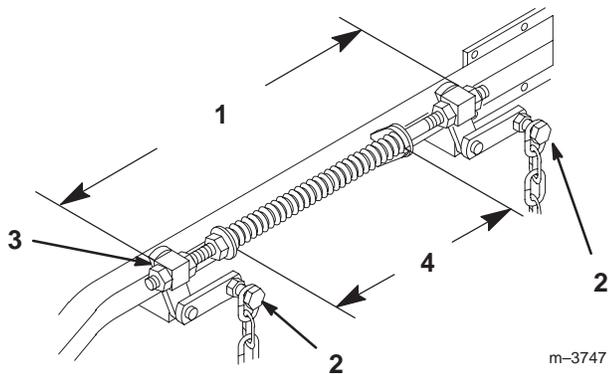

Figure 65
6. Loosen the four top chain bolts in slots. Check the length of the rod/swivel assemblies. Distance from outside of rear swivel to outside of front swivel should be 19–17/32 inch (496 mm) (Fig. 65). Make sure that all four swivels move freely in holes.
2. Springs are compressed so the distance between the two large washers should be 11 inch (279 mm) (Fig. 65).
3. Adjust by turning nut in front of each spring (Fig. 65). Clockwise will shorten spring; counter-clockwise will lengthen spring.